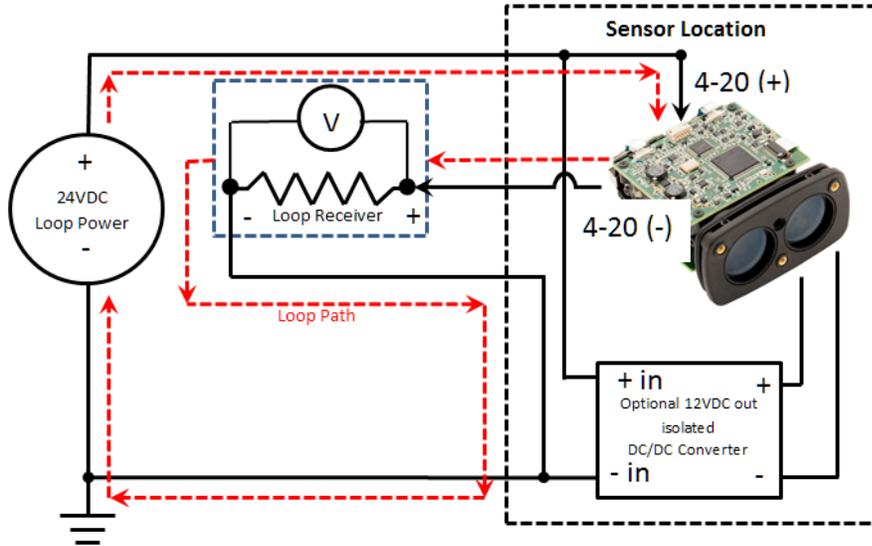

Figure 4
1. **Four Wire:** In this wiring configuration, at the Transmitter location you would have + 24VDC, Common (Ground), Receiver 4-20 (+), and Receiver 4-20(-).Figure 4 shows leveraging the 24VDC loop power to a DC/DC isolated converter powering the TruSense. The current path for the 4-20 Loop is shown in red. **Important:** The Loop power supply must have a minimum current rating